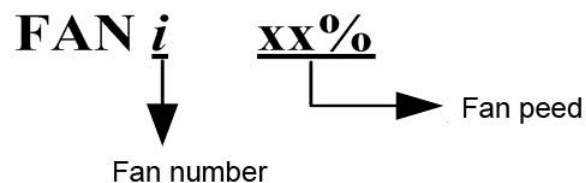

Figure 3-4 Display mode of fan status
- To enter FAN STATUS L2 sub-menu, you can inquire the status of different fans of the server. The fan status will display the fan rotating speed information of the server in the format xx%. The LCD module will display FAN1 xx% (xx% is the percent of the fan rotating speed. The range is 0-100%. The following description indicates this meaning), shown as the figure 3-4.